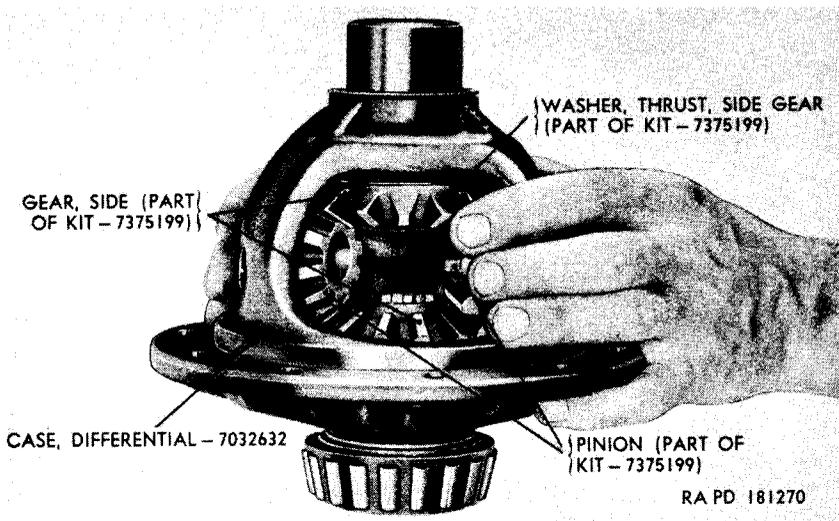

Figure 134. Removing differential pinions.
c. Remove Side Gears and Pinions. Rotate the two pinions (fig. 134) until they are alined with openings in differential case. Remove the pinions and side gears. Remove pinion thrust washer from each pinion. Remove side gear thrust washer from each side gear.